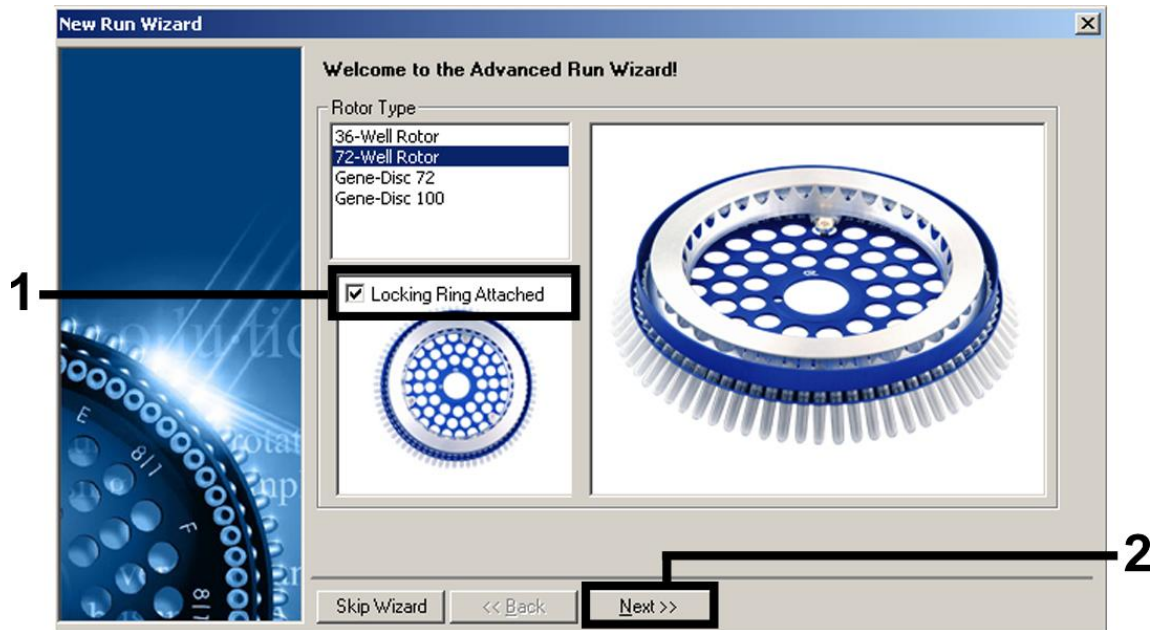

Figure 4. The “New Run Wizard” dialog box.
Setting the general assay parameters	Figures 4, 5, 6
6. First, open the “New Run Wizard” dialog box (Figure 4). Check the “Locking Ring Attached” box and click “Next”.